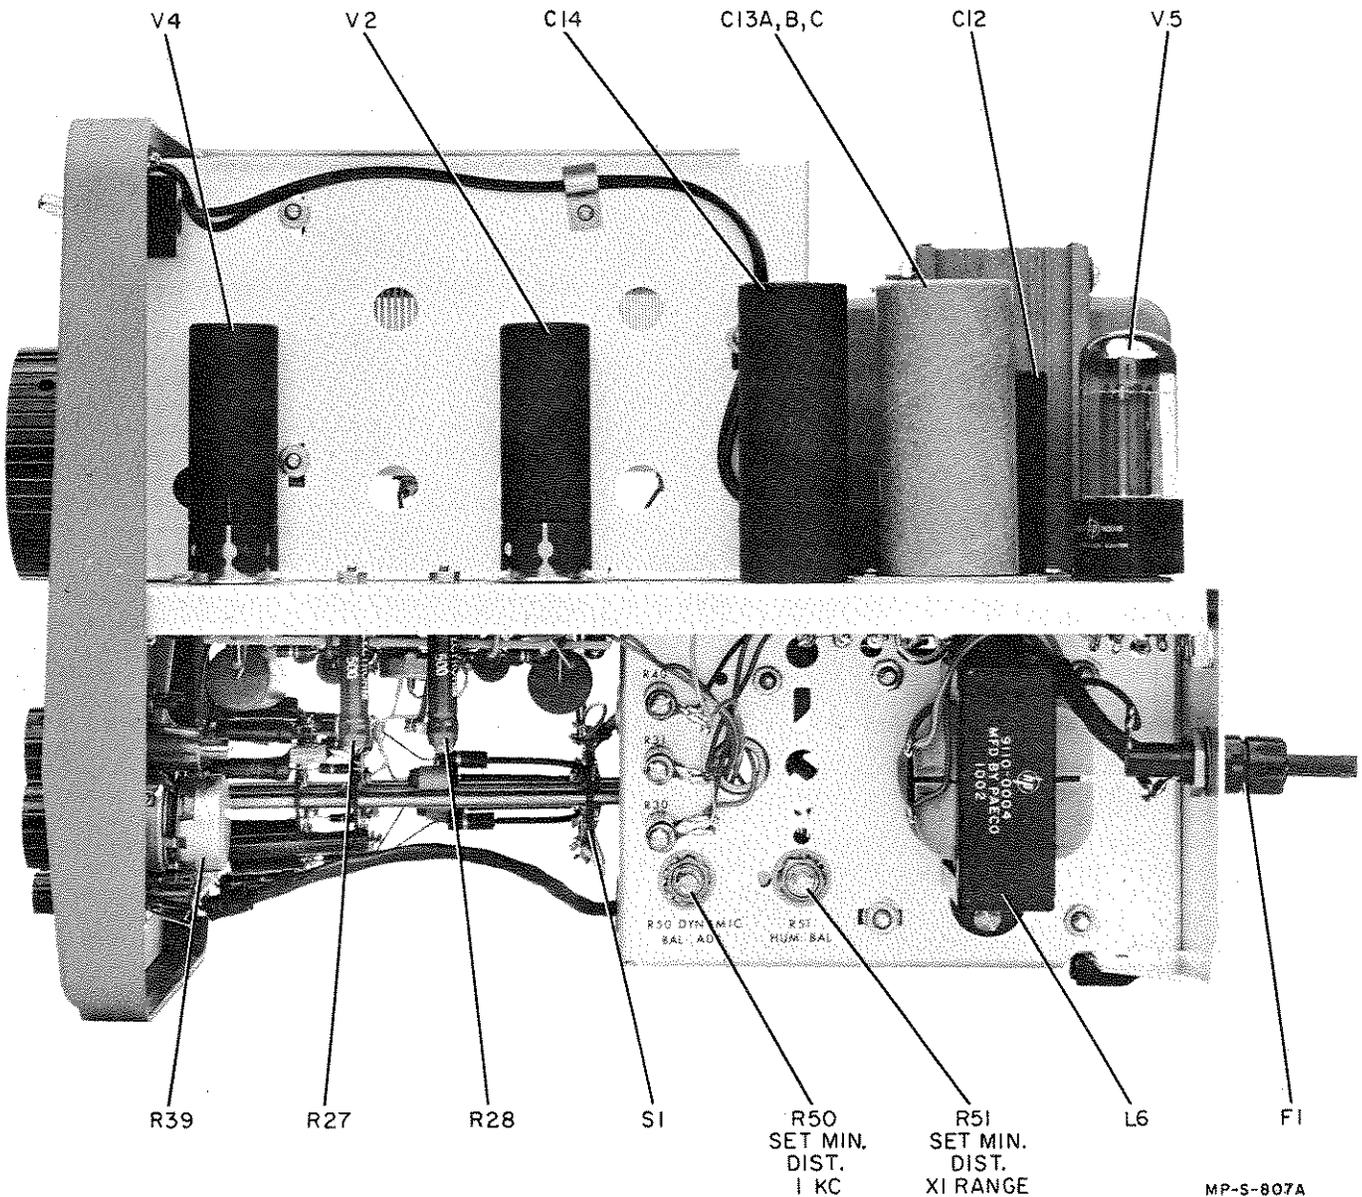

Figure 5-2. Left Side View Model 200CD
5-17. Tubes used in the Model 200CD are listed in Tube Replacement List (table 5-3). If V2 or V4 are changed, replace the special tube shields in their original positions, (shown in figure 5-2).
d. Using an dc electronic voltmeter, measure the positive and negative power supply voltages using ground as a reference. The positive voltage (approximately 225 volts) may be measured between the chassis and C14. The negative voltage (approximately 155 volts) is measured from the chassis to the junction of R30, R31 and R40 (figure 5-2). The difference between the negative and positive voltage should be 380 volts \pm 75 volts.
h. Adjust R50 (dynamic balance) for a dip (minimum distortion; see figure 5-2) on the distortion analyzer meter until the lowest possible dip is obtained.
j. Adjust R51 (hum balance; see figure 5-2) instead of dynamic balance in step h.